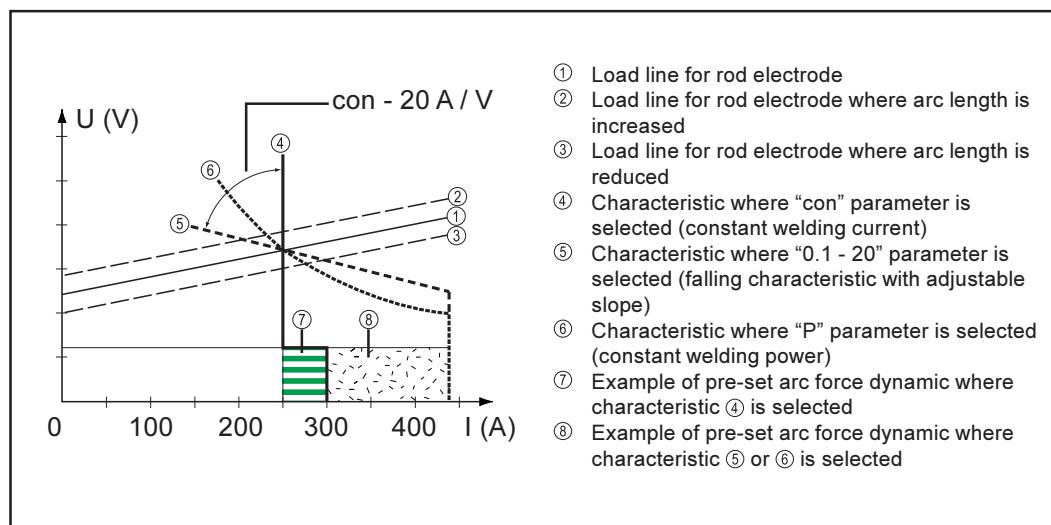

Fig.34 Characteristics that can be selected using the Eln function
- If the “P” parameter is set, the welding power is kept constant, irrespective of the welding voltage and welding current. This results in a hyperbolic characteristic ⑦ (Fig. 34).